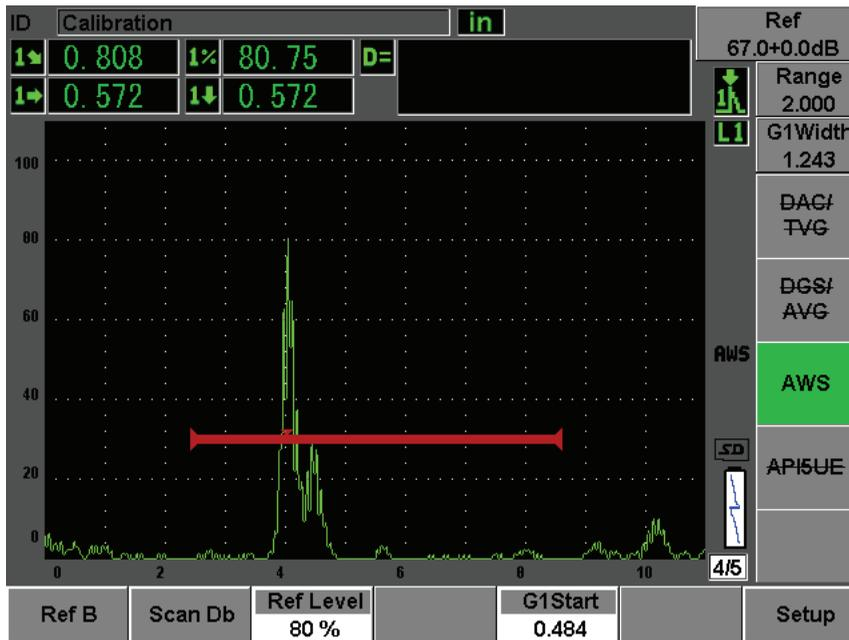

Figure 12-19 Reference B value before storage
3. Choose **AWS > Ref B** to store the gated reflector as the **Ref B** value and choose **YES** to confirm (see Figure 12-19 on page 246).